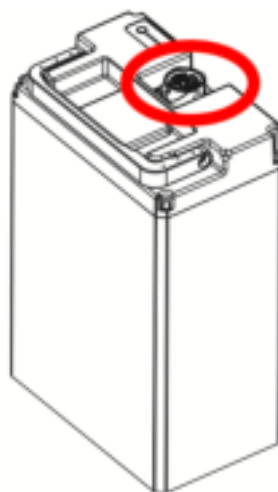

Fig. 12. Location of the charging connector in the battery
3. Pull out the battery vertically and disconnect it from the bottom, you can see the bottom connection of the battery in figure 12.
In figure 12, you can see the location of the charging connector on the battery.